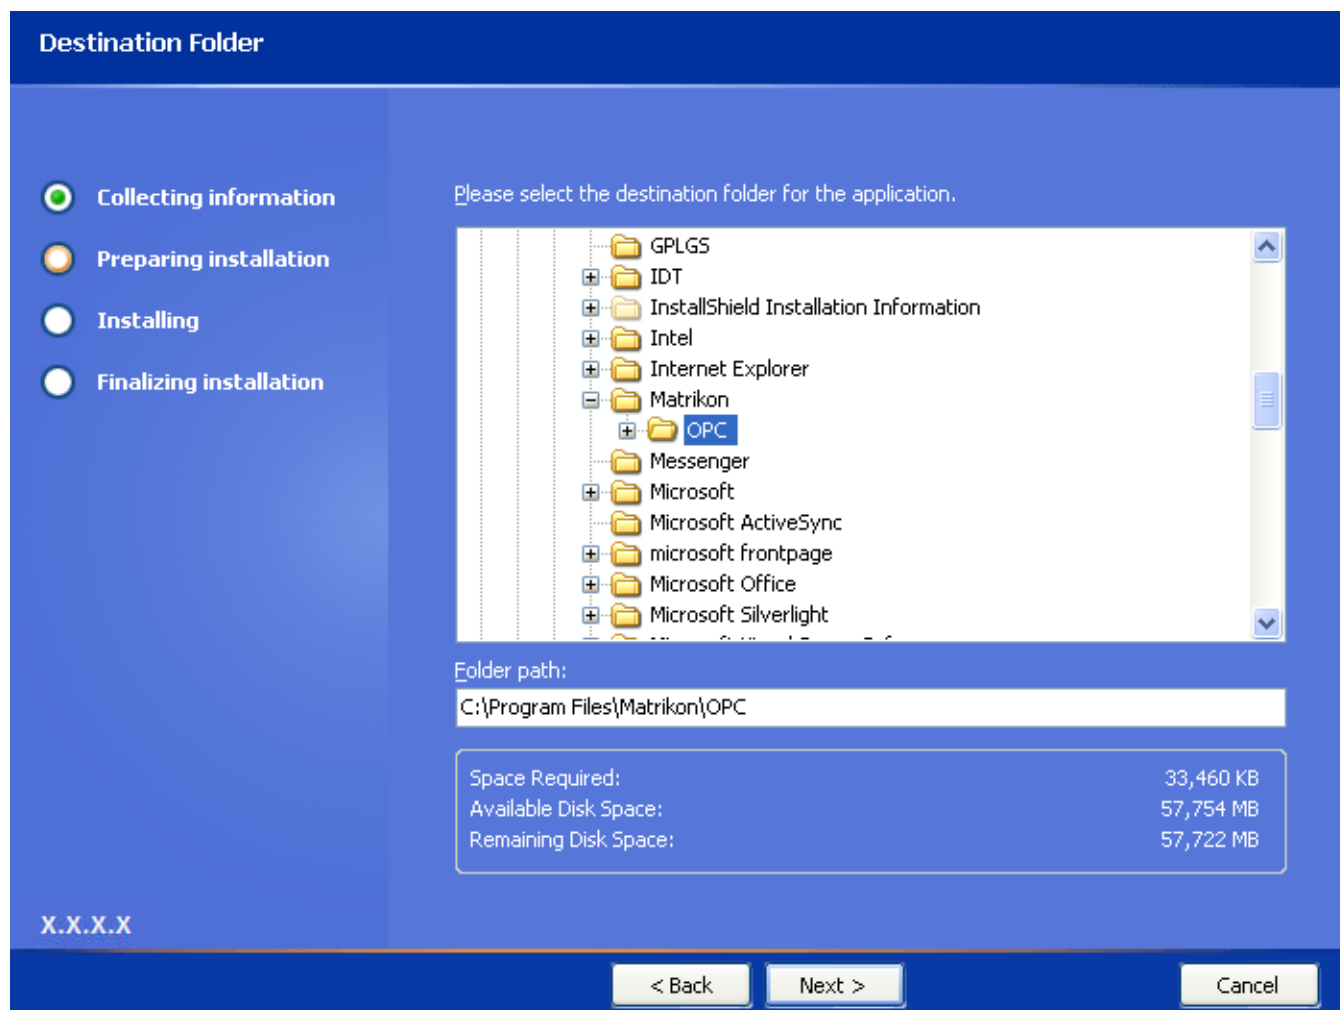

Figure 5 - Destination Folder Screen
9. Click on the **Next** button. The **Destination Folder** screen (Figure 5) appears.